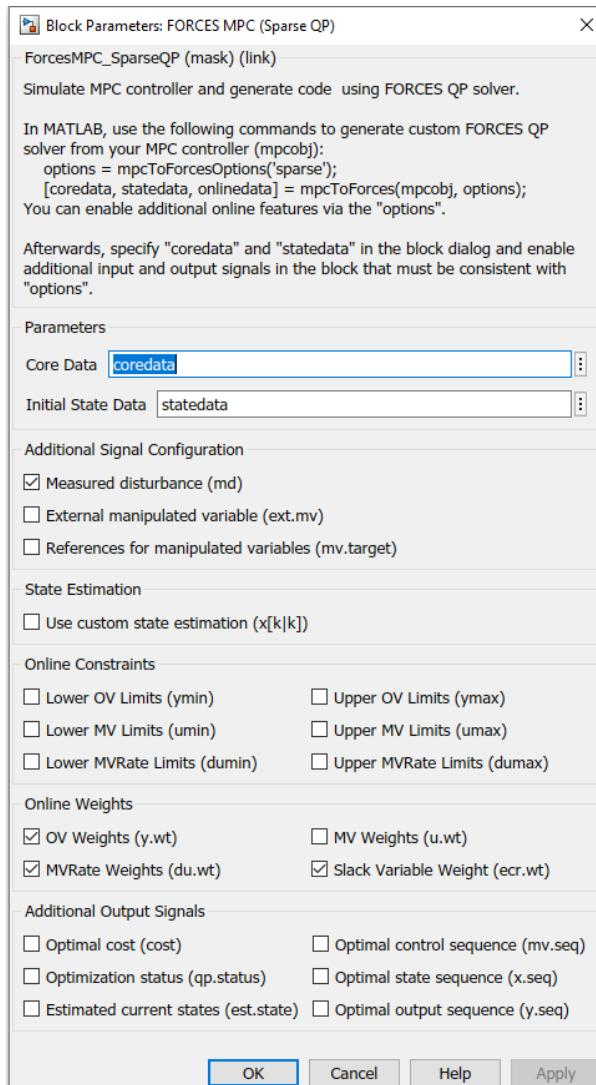
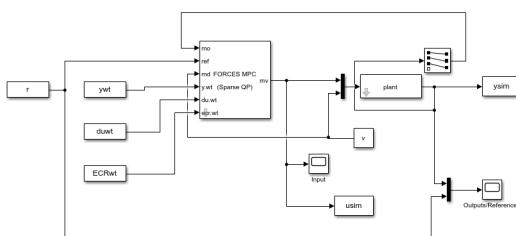

Figure 6.4: FORCES MPC block configuration
Figure 6.5: FORCESPRO MPC block integration in a Simulink model
The FORCESPRO sparse solvers can be used inside Simulink to deploy to dSpace MicroAutoBox II. All features of the MATLAB plugin are available through this Simulink block, namely measured disturbances, external manipulated variables, references for manipulated variables, custom state estimation as well as online weights and constraints. Configuring the block is done via the user interface shown in Figure 6.4 below.
- 2) Note that the option *ForcesTargetPlatform* needs to be specified. The structures *core-data* and *statedata* needed by the FORCESPRO solver are then provided to the Simulink block via the window shown in Figure 6.4. The integration of the FORCESPRO MPC block in a Simulink model is shown in Figure 6.5 below.